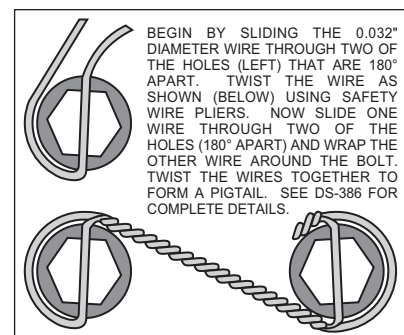

Figure 4. Safety Wire Diagram
- Pack the small outer bearing cone (18) with high temperature disc brake bearing grease and install into front of hub (10). Slide the hub/rotor assembly (10 and 13) with outer bearing cone (18) onto the spindle. Secure using spindle washer (19), stock adjusting nut and nut locking device. Adjust bearings per Original Equipment Manufacturer (OEM) specifications.
- Install the dust cap (20) and o-ring (21) onto the hub (10). Friction created by the o-ring (21) on the dust cap (20) keeps it from unscrewing.
- With the larger I.D. side of the rotor (13) facing away from the hat (14), bolt rotor (13) to hat (14) through the backside of the rotor using washers (15) and bolts (16). Torque bolts (16) to 85 in-lb. Safety wire bolts (16) using standard 0.032 inch diameter stainless steel safety wire as shown in Figure 4. Please refer to Wilwood's data sheet DS-386 (available at [www.wilwood.com/Pdf/DataSheets/ds386.pdf](http://www.wilwood.com/Pdf/DataSheets/ds386.pdf)) for complete safety wire installation instructions.